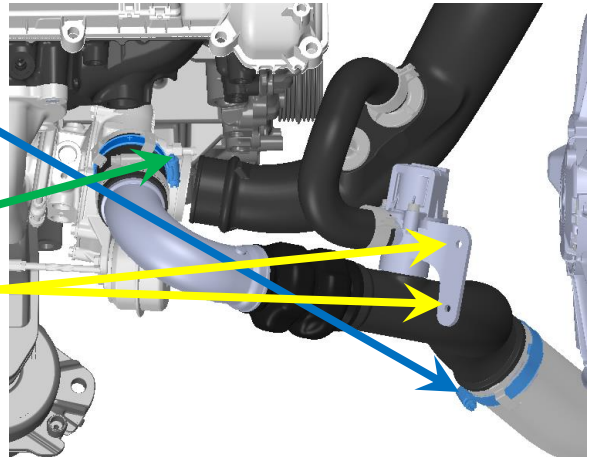

Fig. 28
1. Maneuver discharge tube back into position. Tighten worm clamp bolt. See Fig. 28 (use 7mm socket) *Torque to 44 lb.in (5 Nm)*
2. tighten worm clamp bolt. See Fig. 28 (use 7mm socket) *Torque to 44 lb.in (5 Nm)*
3. *Re-attach wiring harness plastic clips back into position.* See Fig. 28